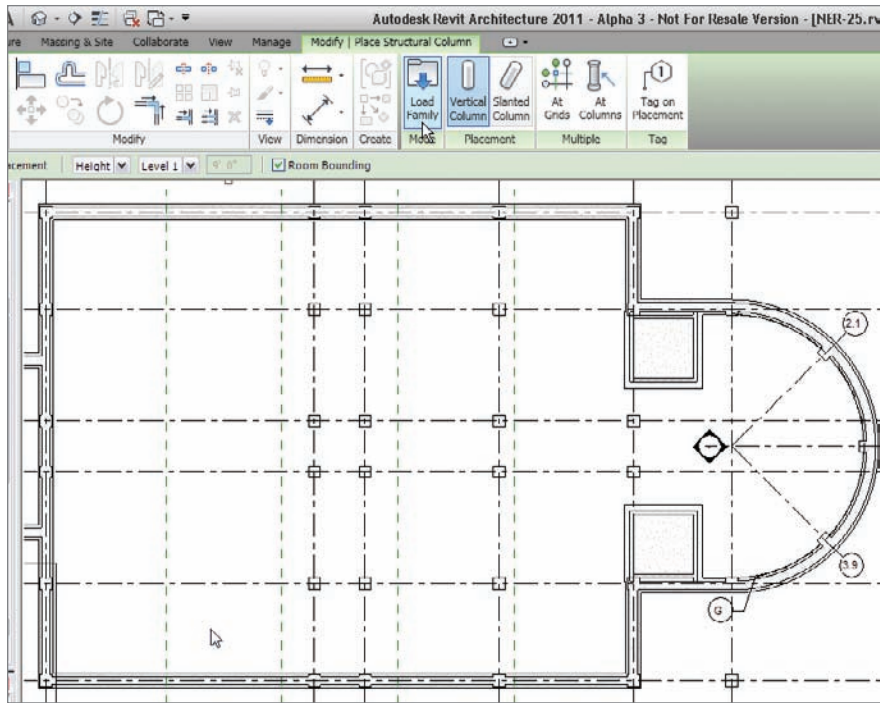

FIGURE 8.64 Start placing piers.
3. On the Insert tab, click the Load Family button, as shown at the top of Figure 8.64.
8. Start placing the columns at the grid intersections, as shown in Figure 8.64.